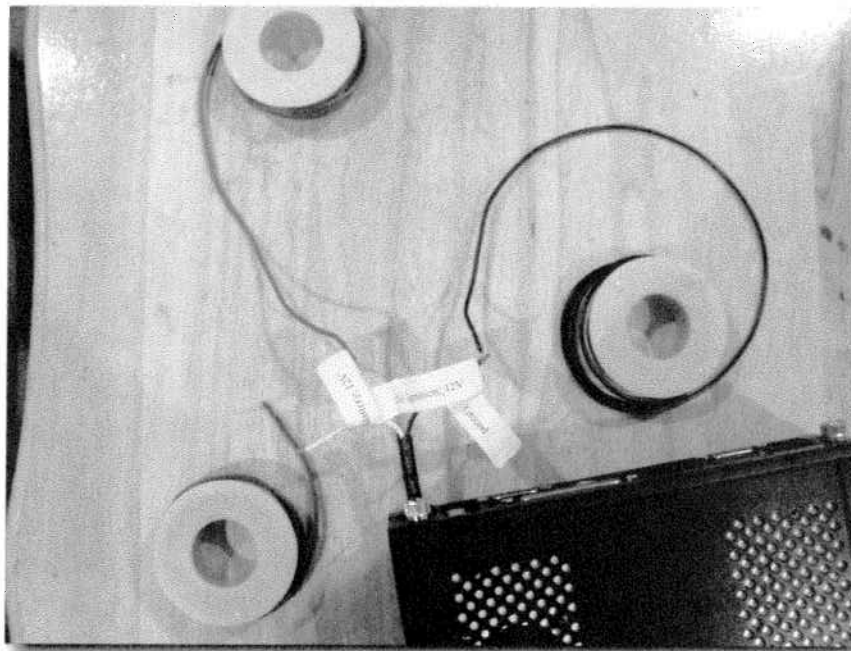

FIGURE 3-7: The wiring and the ends of the computer power cables you are about to connect it to.
1. Give yourself some slack and strip the wires so you can solder the connectors together, as shown in Figure 3-7.